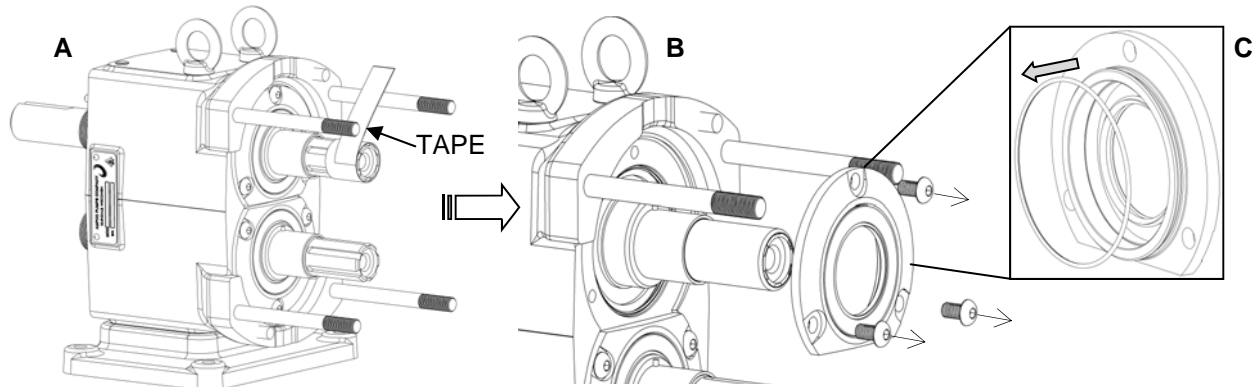

Figure 45: Tape Shafts and Remove Bearing Retainers
3) To prevent damage to the shafts, wrap the shaft splines with electrical tape (Figure 45, A). Any damage to the shaft splines may require the shaft to be replaced. Remove the screws holding the bearing retainers in place and slide both bearing retainers off the shaft (Figure 45, B). If they are stuck, use a flat head screw driver as a wedge to pry them from the gear case or leave them in place and when the shafts are removed they will press off with the shafts. Remove the o-rings from the bearing retainers and replace if damaged.